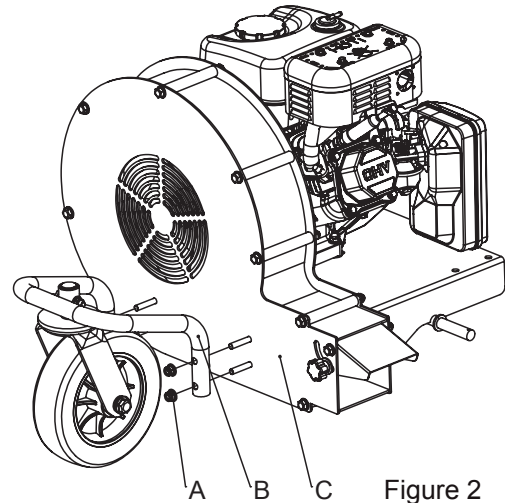

Figure 2
1. Fix bracket (B) and M8 flange face loosening nut (A) on side plate (C). (see Figure 2).